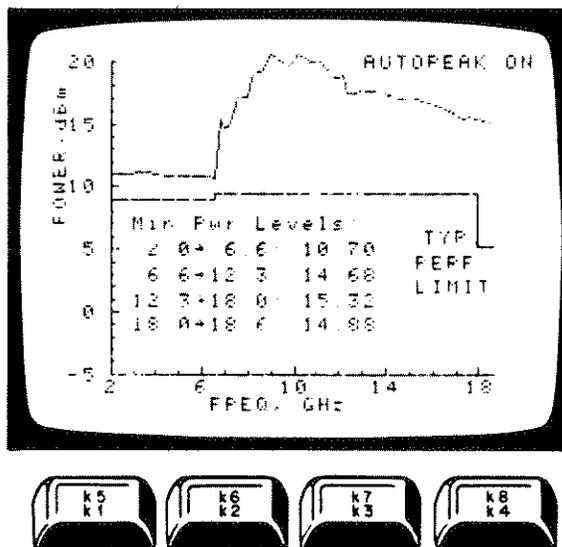

Figure 5-25. Maximum Power Plot
13. The maximum available unlevelled power will be measured and plotted as in Figure 5-25. If maximum power is lower than the typical specs shown on the graph, then refer to Section VIII, BD5 for troubleshooting.